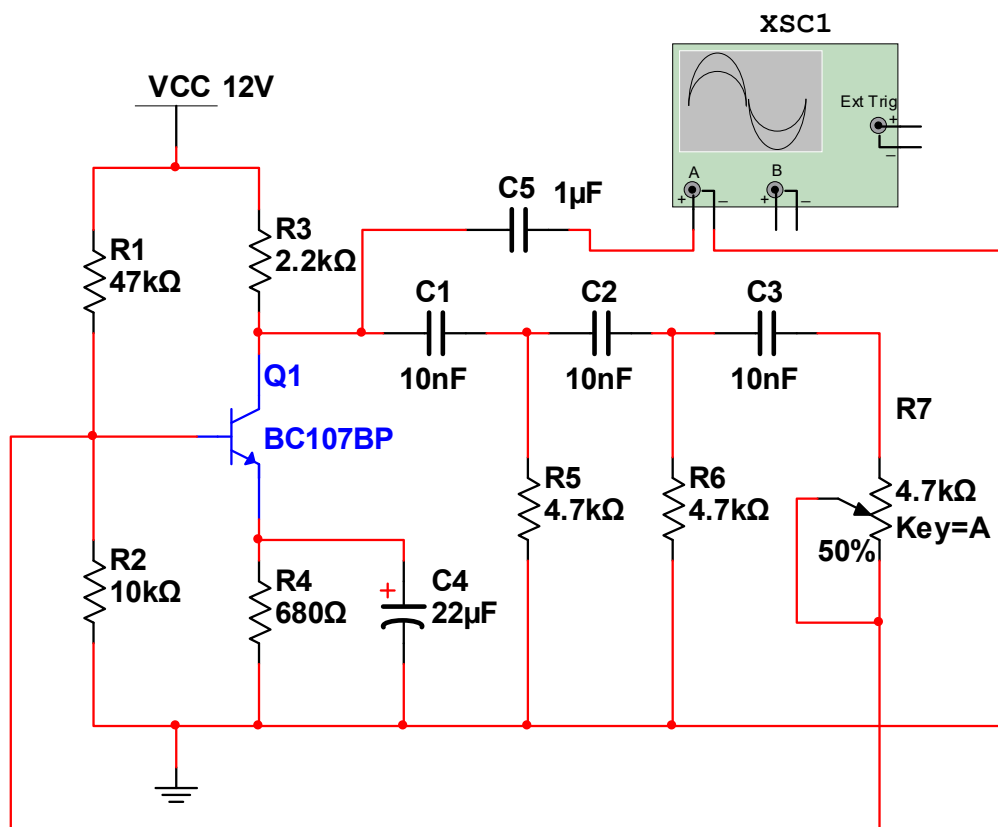

Figure 11.1: RC Phase Shift Oscillator
- ❖ *Connect the components as shown in Figure 11.1*